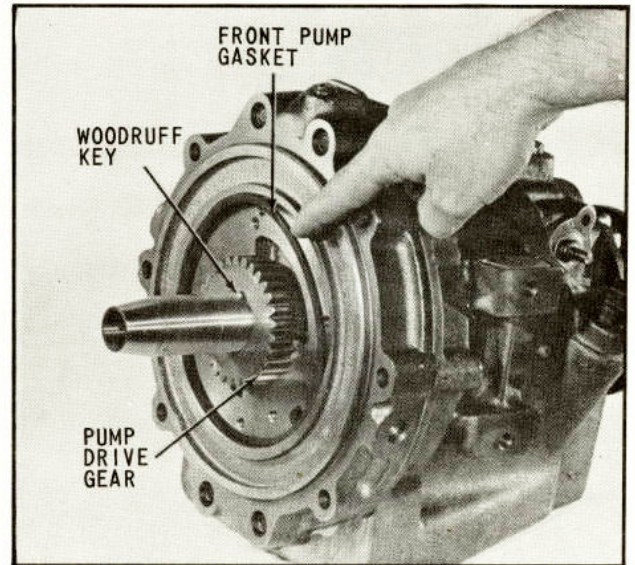

Fig. 63 Installing Pump Drive Gear Key and Front Pump Gasket
65. Lubricate and install front pump gasket, (Fig. 63).
66. Install Woodruff key, (Fig. 63).
67. Install the pump drive gear on the input shaft, with one of the Woodruff key slots in drive gear mating with the Woodruff key on the input shaft, (Fig. 63).
68. Cover the splined portion of the input drive gear with a suitable tool to protect the rubber lip on the seal during the assembly of the remaining front pump parts, (Fig. 63).